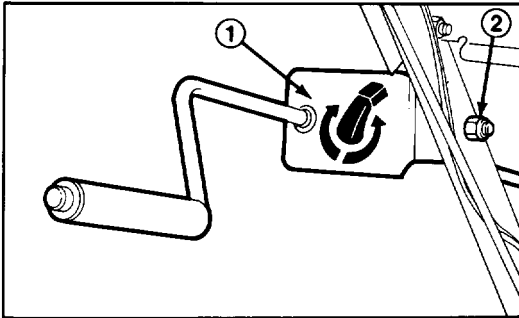
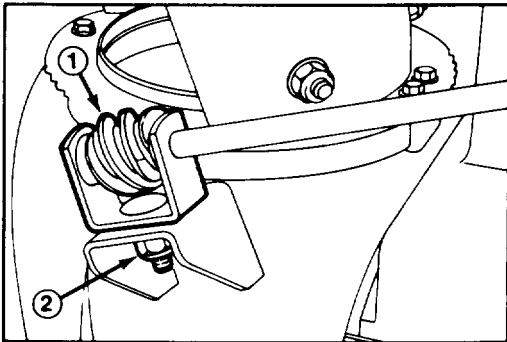

Figure 9
Figure 10
1. Assemble chute control bracket and rod to left side of handle with capscrew and locknut. Leave locknut loose until assembly is completely mounted (Fig. 9).
2. Apply No. 2 general purpose grease to worm gear. Mount worm gear and bracket to mounting flange and secure with pyramidal washer and locknut (Fig. 10).
3. Slide worm gear into teeth of chute retaining ring and tighten locknut (Fig. 10). Then, tighten locknut to secure chute control bracket against left handle (Fig. 9).